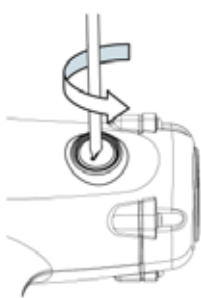

Fig. 3
- Loose the carbon brush panel counterclockwise by using slated bit. (Fig. 3).